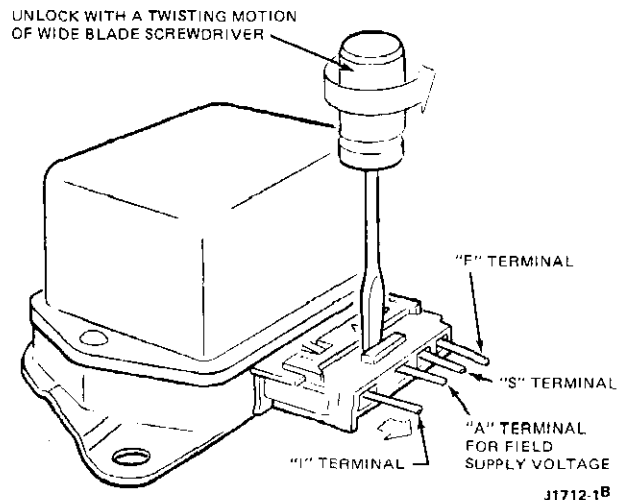

FIG. 1 Unlocking Wiring Harness Connector
3. Use screwdriver to unlock connector and then disconnect the regulator from the wiring harness (Fig. 1).